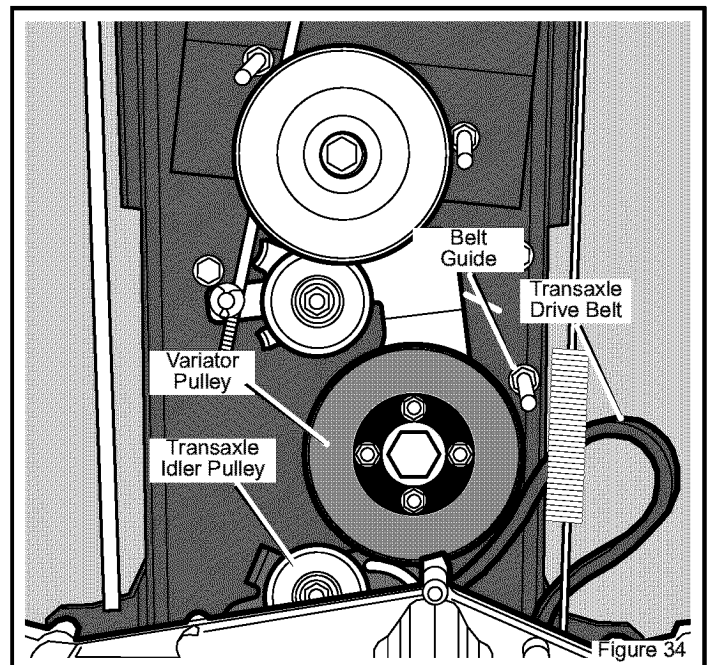

Figure 34
7. Remove the **transaxle drive belt** from the **transaxle idler pulley** (see Figure 34).